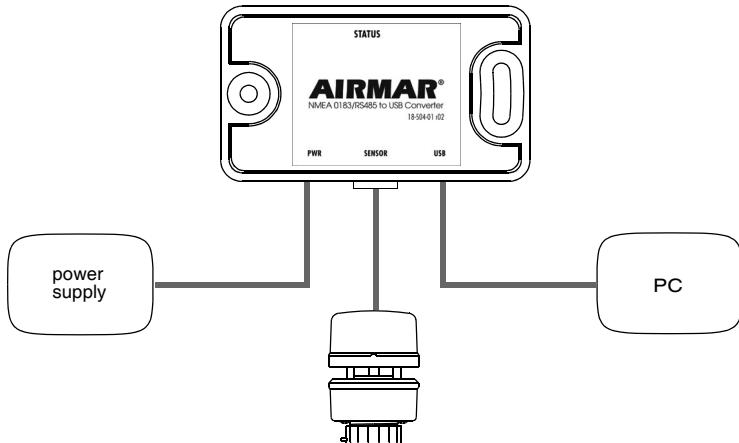

Figure 7. Converter installation
1. Select a convenient, dry, mounting location for the water-resistant Converter, a minimum of 1m (3') from the PC (see Figure 7).